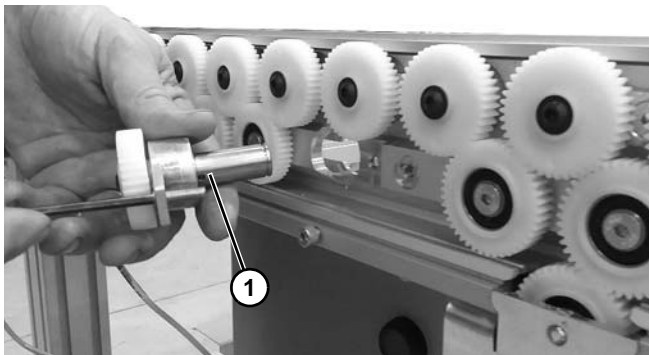

Figure 52
4. Remove bearing assembly (Figure 52, item 1).